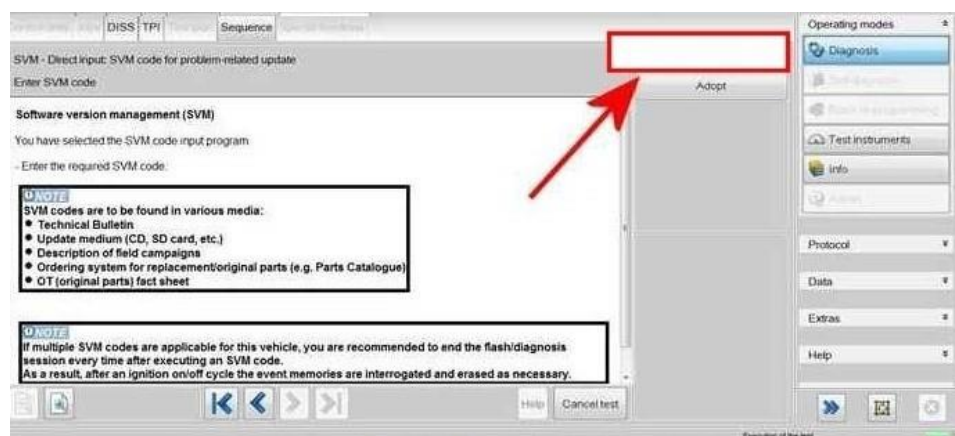

Figure 6
9) Referring to Figure 6 - Enter the SVM code **370WAD01**